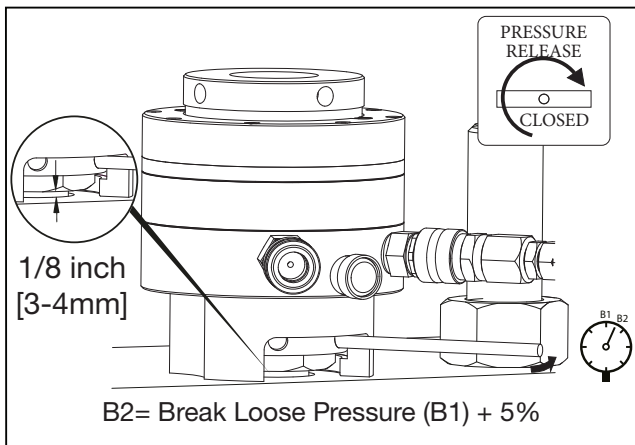

FIGURE 17, TURNING UP THE NUT
6. While holding the pressure constant, turn up (loosen) the nut at the first tensioner, so that there is approximately a 1/8 inch [3-4 mm] gap between the nut and the joint surface. See Figure 17.